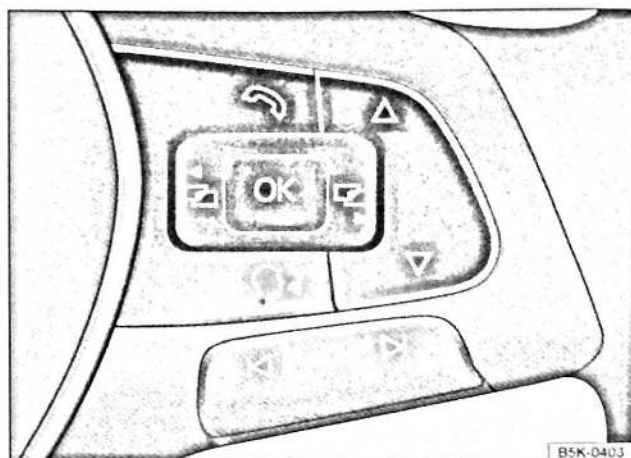

Fig. 17 Right-hand side of the multifunction steering wheel: controls for using the menus and information displays in the instrument cluster
- If a message or vehicle pictogram is displayed, press button $\Rightarrow$ Fig. 16 ① on the windscreen wiper lever or the **OK** button on the multifunction steering wheel $\Rightarrow$ Fig. 17. You may need to press the button several times.
- *Operation using the multifunction steering wheel:* to display and browse through the selection menu, press  or  $\Rightarrow$ Fig. 17.
- To open the menu or information display shown in the selection menu, press $\Rightarrow$ Fig. 16 ① on the windscreen wiper lever, press the **OK** button on the multifunction steering wheel $\Rightarrow$ Fig. 17, or wait until the menu or information display opens automatically after a few seconds.
- In the displayed menu, press the rocker switch $\Rightarrow$ Fig. 16 ② on the windscreen wiper lever up or down, or press the arrow buttons  or  on the multifunction steering wheel $\Rightarrow$ Fig. 17 until the required menu option is selected. A frame appears around the selected option.
- Press button $\Rightarrow$ Fig. 16 ① on the windscreen wiper lever or press the **OK** button on the multifunction steering wheel $\Rightarrow$ Fig. 17 to make the required change. A tick indicates that the particular system or function is active.
- *Using the multifunction steering wheel:* press the  or  button $\Rightarrow$ Fig. 17.
- *Vehicles with a multifunction steering wheel:* press the  or  button $\Rightarrow$ Fig. 17.